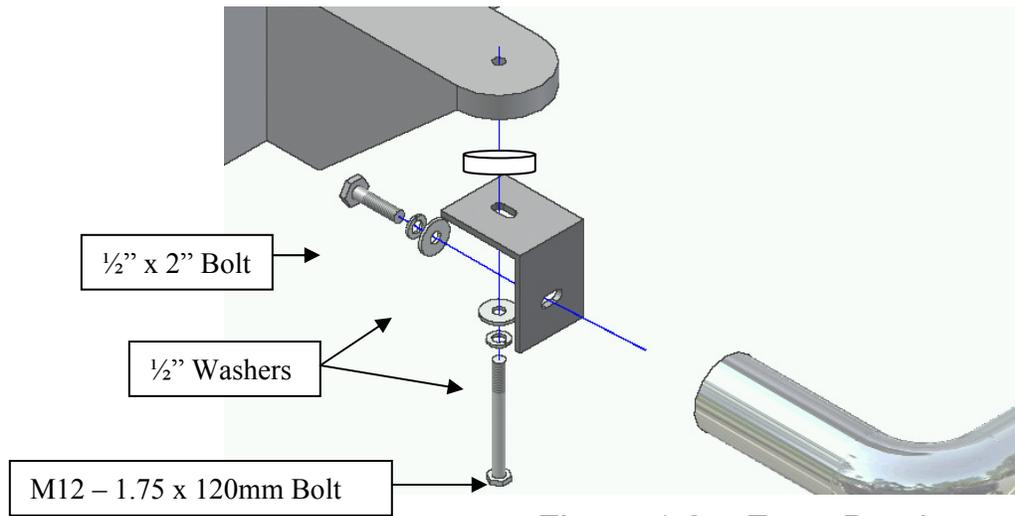

Figure 1.2 – Front Bracket
- (2) FRONT SPACER TUBES (SHOWN IN FIG 1.2)
2. From underneath truck, loosen and remove body mount bolts that run upward through mounts into floorboard. Attach and secure Front Mount Bracket to underside of vehicles front body mount, sandwiching the spacer tube shown (see Figure 1.2) with (1) M12 – 1.75 x 120mm bolt, (1) 1/2" split lock washer, and (1) 1/2" flat washer. Hand Tighten.